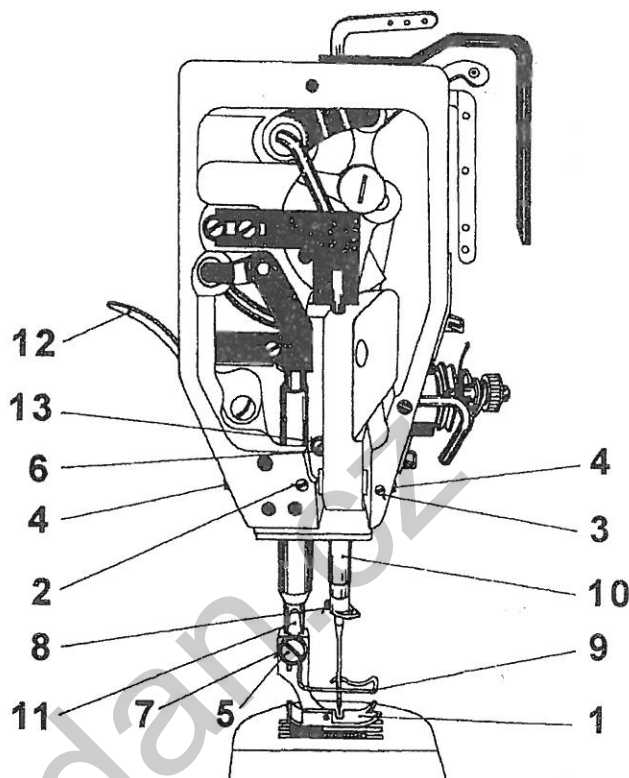

Fig. 4
#### 6. To lift the presser foot (Fig. 4)
#### 8. To insert the needle (Fig. 4)
**8. To adjust in height the needle bar (Fig. 4)**
**14. To exchange the presser foot (Fig. 4)**
**16. To adjust the needle punches longitudinally into the centre of the slot of the throat plate (Fig. 4)**